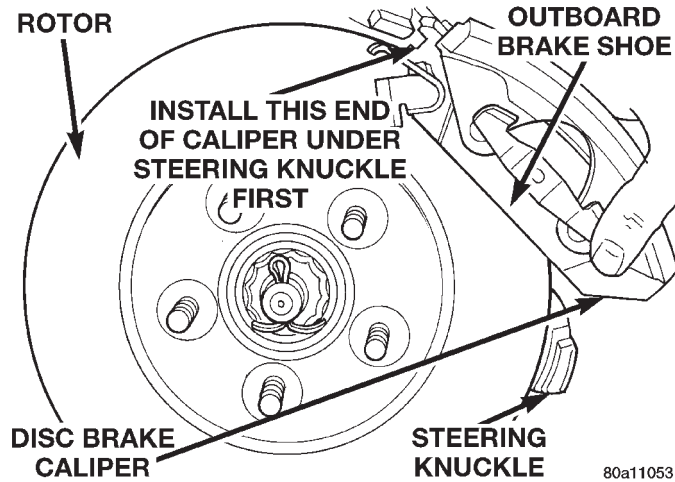

Fig. 55 Installing Brake Caliper
(7) Carefully position brake caliper and brake shoes over brake rotor by first hooking top of brake shoes onto upper abutment on steering knuckle (Fig. 55). Then rotate caliper into position at bottom of steering knuckle.